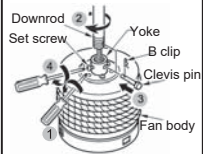

Fig.7
Step 3: Loosen the two set screws on the motor coupling. Carefully feed the fan wires up through the downrod. Thread downrod into coupling of motor, line up holes and replace clevis pin and B clip. Tighten the two set screws.(Fig.7)